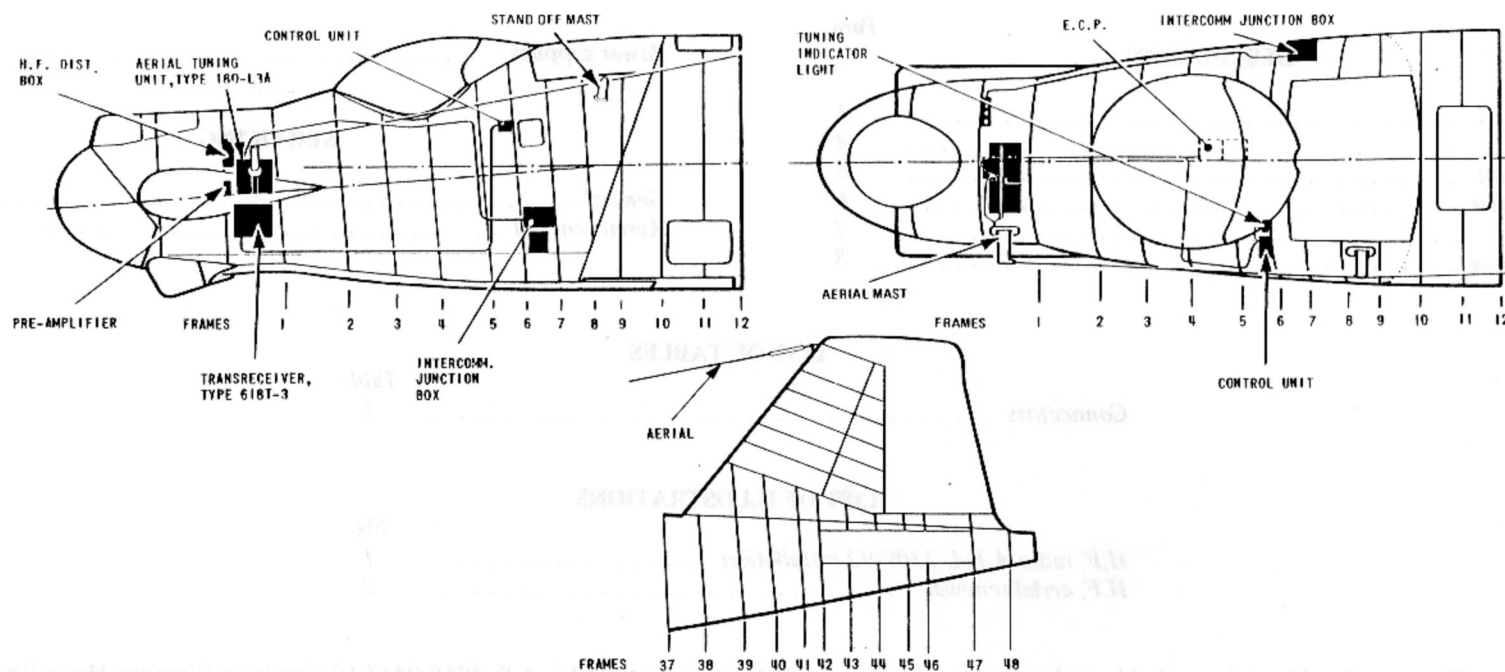

FIG. 1. H.F. RADIO A.R.I. 23090/2 INSTALLATION
H.F. radio A.R.I. 23090/2 installation	Fig. 1